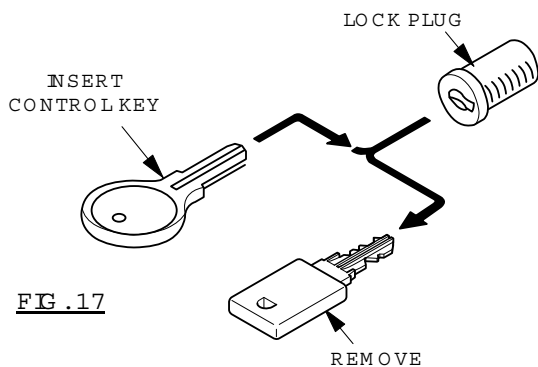

FIG .18
3. Insert the lock plug into the lock shell of the component (Fig. 18).